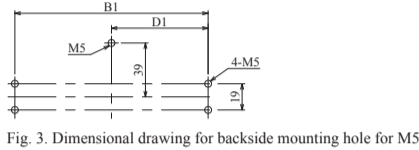
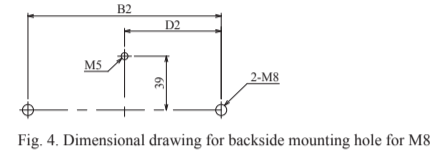
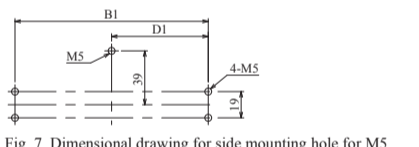

Fig. 3. Dimensional drawing for backside mounting hole for M5
Fig. 4. Dimensional drawing for backside mounting hole for M8
Fig. 7. Dimensional drawing for side mounting hole for M5
背面取り付け時は保護金具(3)を使用してください。取り付け位置については取り付け穴加工寸法図を参考にしてください(図3、図4参照)
Secure protection bracket (3) or (4) to the wall. For backside mounting, use protection bracket (3). For mounting position, refer to the dimensional drawing for mounting hole. (See Fig. 3 and 4.) For side mounting, use protection bracket (4). For mounting position, refer to the dimensional drawing for mounting hole. (See Fig. 7 and 8.)